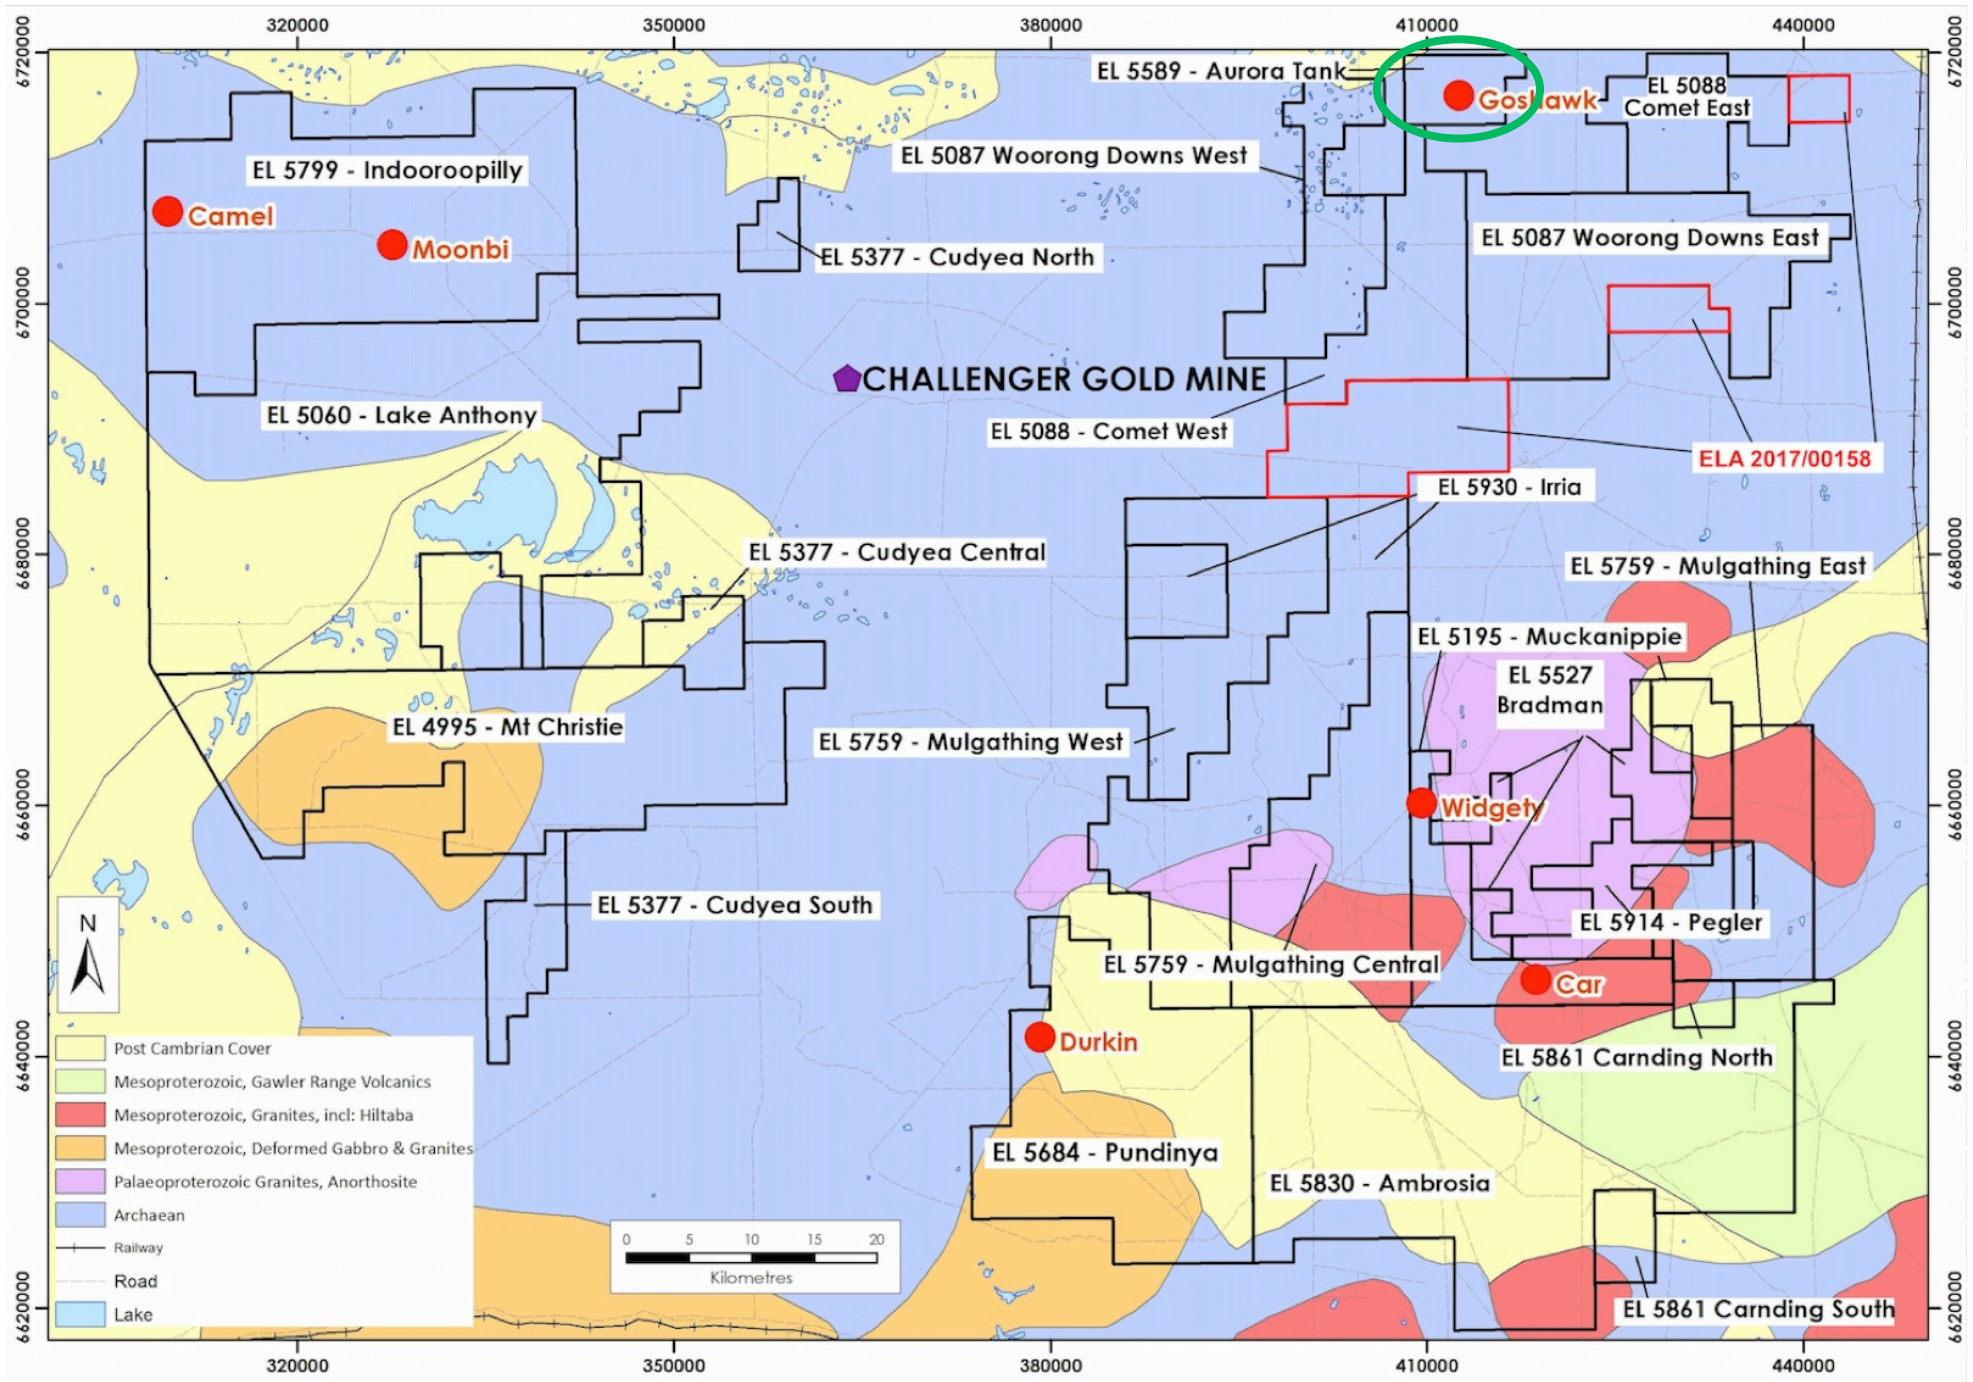

Figure 5: Marmota's Gawler Craton tenements around the Challenger Gold Mine
- Aurora Tank (EL 5589) is situated about 50km NE of the Challenger gold mine [see Fig. 5]